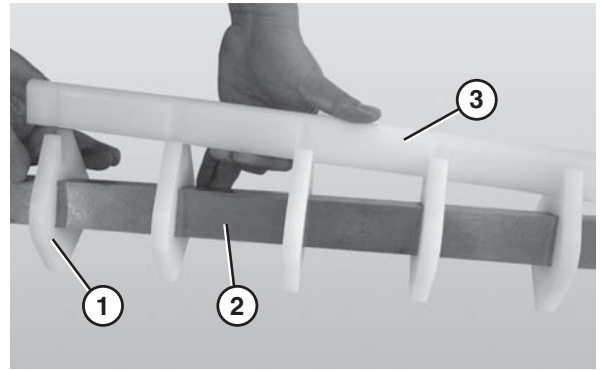

Figure 65
1. Slide the nose bar pucks (Figure 65, item 1) onto the nose bar drive post (Figure 65, item 2).
2. Attach the nose bar wear strip (Figure 65, item 3).